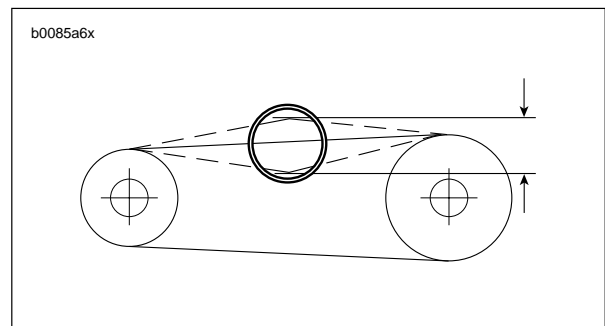

Figure 1-28. Measuring Primary Chain Tension
- See Figure 1-28. Check primary chain tension by measuring vertical free play.